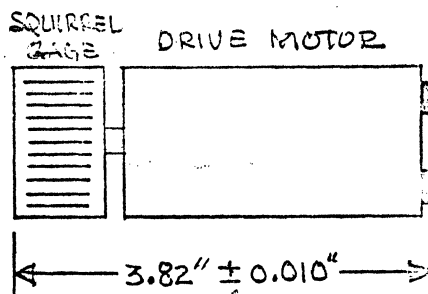

Figure 7-11. Squirrel Cage Mounting Distance
3. Install squirrel cage on replacement motor by reversing procedure (Figure 7-11).